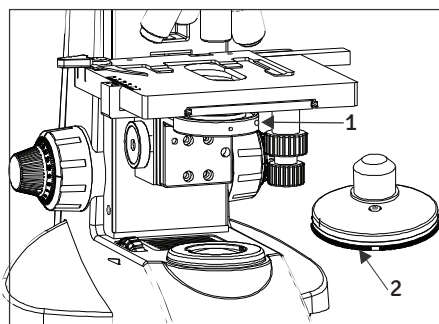

Fig. 6
1. Remove the condenser from its position by loosening the thumb screw (1) on right side of the condenser bracket as shown in figure 6.
3. Secure it with thumb screw (1). The phase turret can be adjusted at any desired phase annulus (10x, 20x, 40x & 100x) by turning the thumb wheel (2) to the desired position. There is also an '0' setting on the thumb wheel for bright field application.